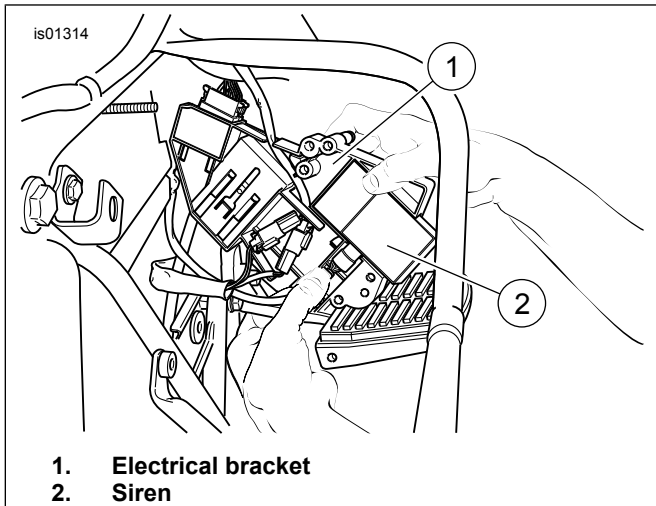

Figure 13. Slide Siren into Place (2002-2007 FL Touring)
- Refer to Figure 13. Slide the siren (2) into place on the back of the electrical bracket (1) so the sounder disc faces out.